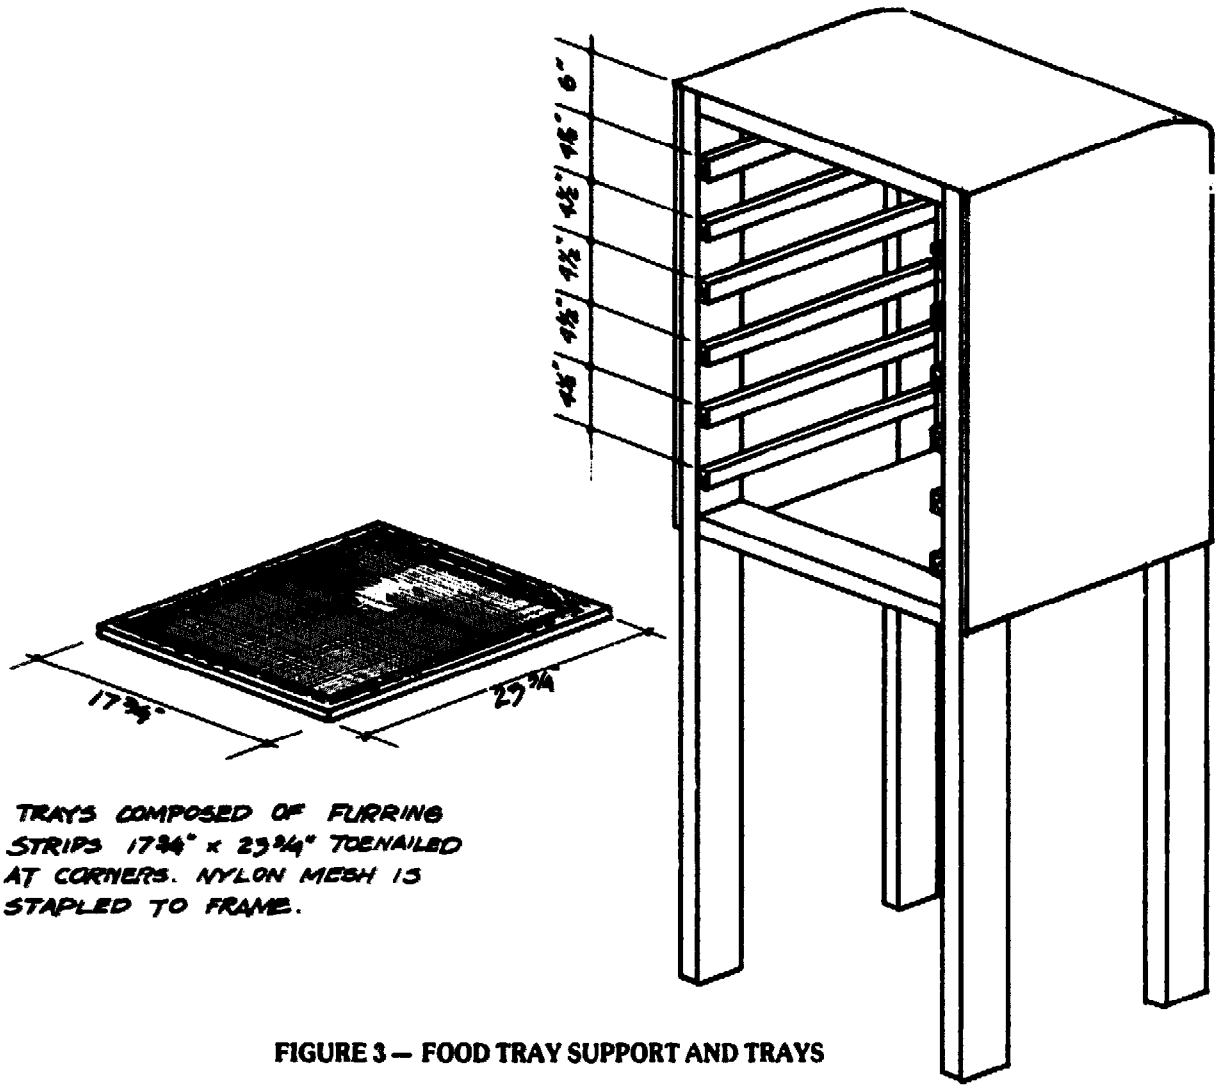

FIGURE 3 — FOOD TRAY SUPPORT AND TRAYS
The molding for supporting the food trays is cut from 1" x 2" furring strip. These are cut to a length of 24"; a total of 12 pieces are needed to form the slides for the 6 food trays. (Figure 3). The strips are spaced evenly and nailed to the sides as shown.
**FIGURE 3** - Outside cold air vent allows outdoor air to circulate through dryer and exhaust through hinged upper vent - a relief valve when hot air is not wanted in the house.